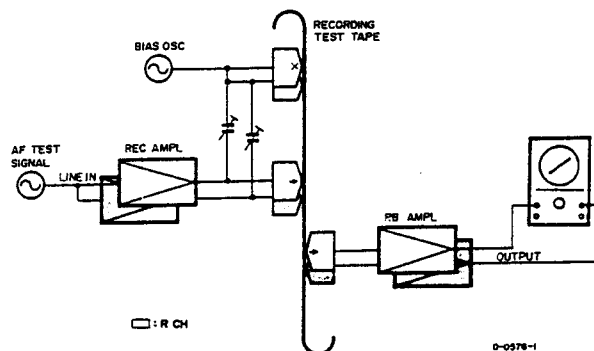

Fig. 6-7 Fine Adjustment Set-up
6. Connect the test equipment as shown in Fig. 6-7.